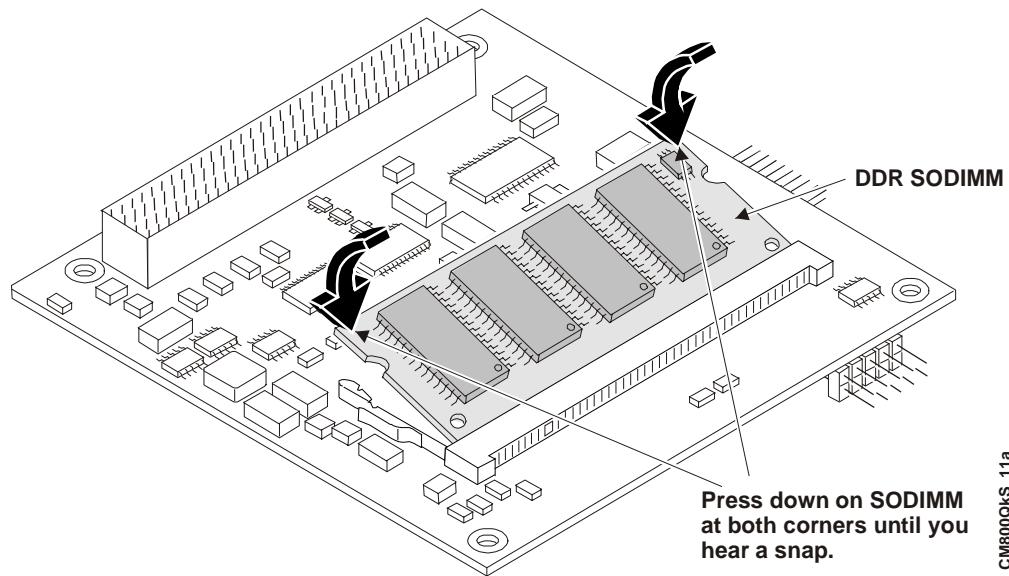

Figure 2-4. Pressing down on SODIMM
9. Press the edges of the SODIMM down between the latches, until the latches snap into place. See Figure 2-4.